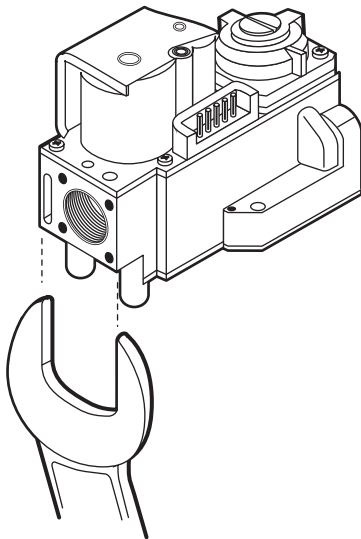

Fig. 3.
- Tighten gas control using the right open end wrench. See fig. 3.